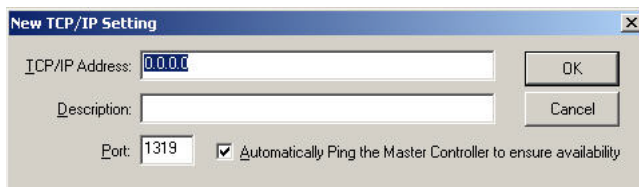

FIG. 4 NetLinX Studio - New TCP/IP Setting dialog
- Click **New** to open the *New TCP/IP Setting* dialog (FIG. 4).